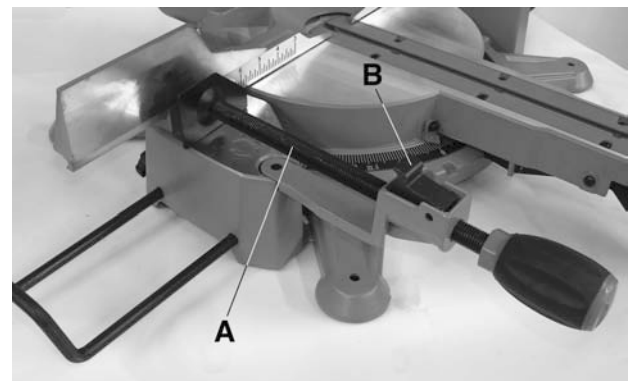

Figure 6
The horizontal quick adjust vise (A) Fig.6 can be installed in two positions on either the left or right side of the table base. Insert the vise pivot shaft into the hole in the base as shown. To adjust the position of the vise, simply turn the handle or use the quick adjust feature by lifting the half nut (B) and pushing or pulling the handle to position the vise. Reposition the half nut on the threaded shaft to secure the vise in place.